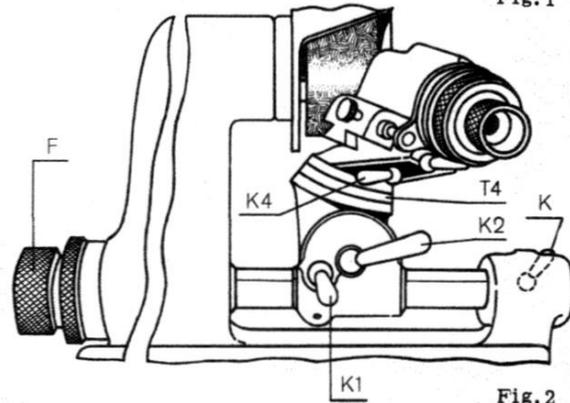

Fig. 2
4. While continuously rotating the collet bearing through 180° (back and forth between the stops), advance the cutter towards the grinding wheel by means of fine adjustment screw F. This will produce the desired back rake angle in a positively controlled operation (see Fig. 2).